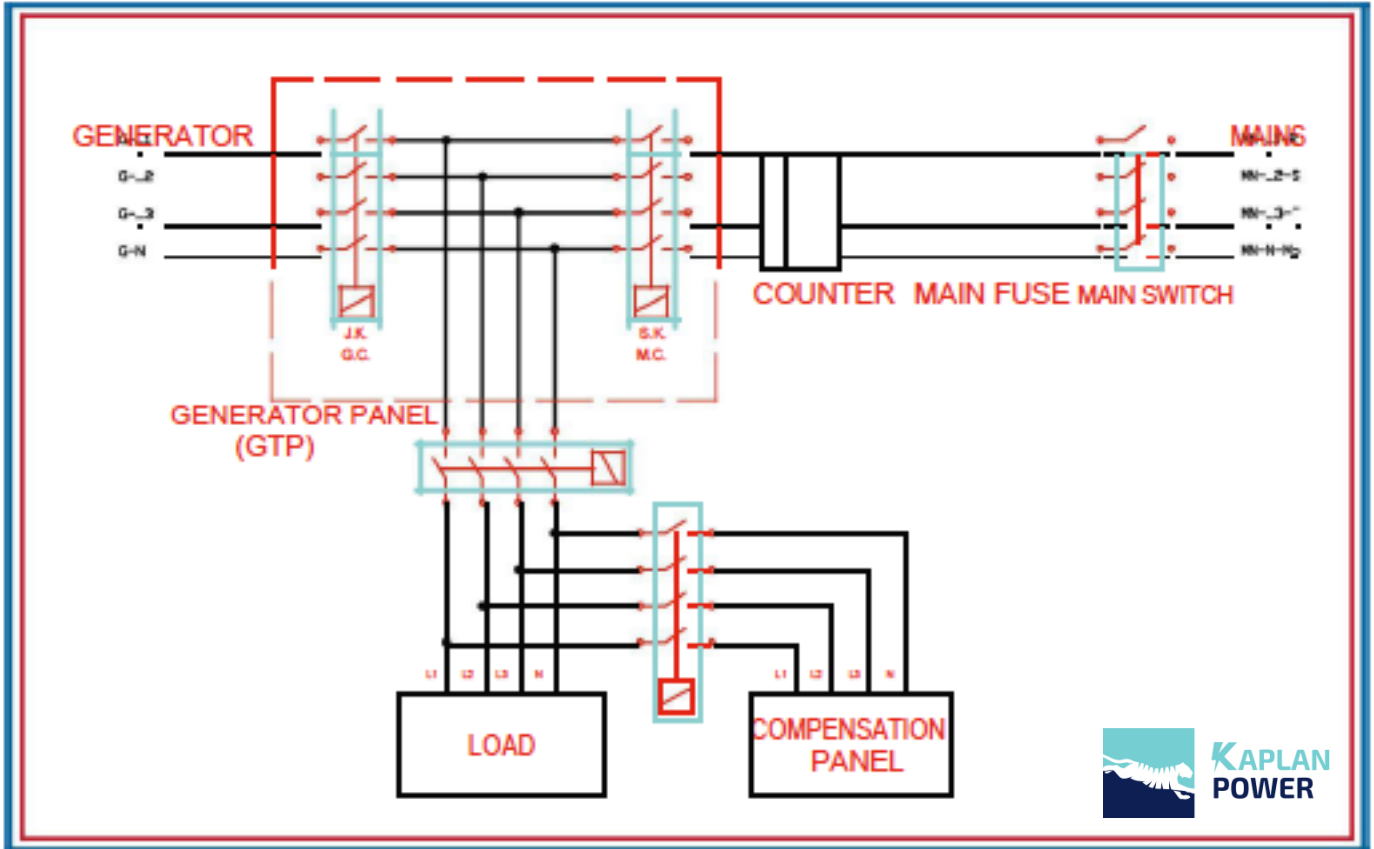

Figure-22 Connection Method of the Generator to Operation
- Operating connection of the generator shall be performed correctly so that it can function properly. This connection type is shown in Figure-22. There are two cable inputs to the panel. One is the mains input for mains control and the other is the generator output. Mains line taken from the electric meter output or from the compensation panel, if applicable, is connected to the consumer via the mains contactor. The point to be considered here is that the generator shall be connected after the meter.